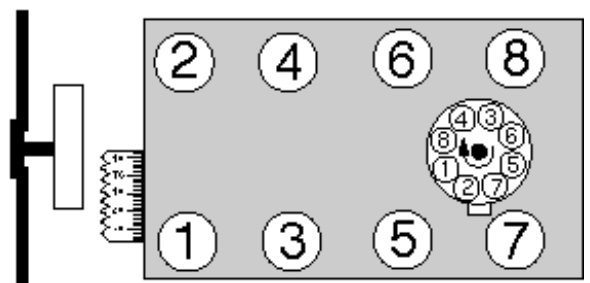

Figure 2—262-400 c.i.d. Chevrolet
• **FIRING ORDER AND CYLINDER NUMBERING**—For firing order and cylinder numbering, see Figure 2.